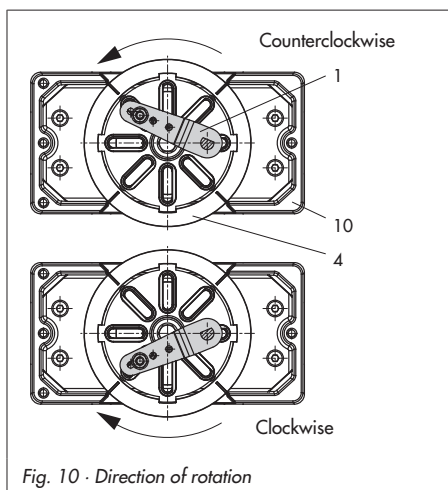

Fig. 10 · Direction of rotation
8. Place positioner on housing (10) and screw it tight. Considering the actuator's direction of rotation, align lever (1) so that it engages in the correct slot of the coupling wheel with its follower pin (Fig. 10).